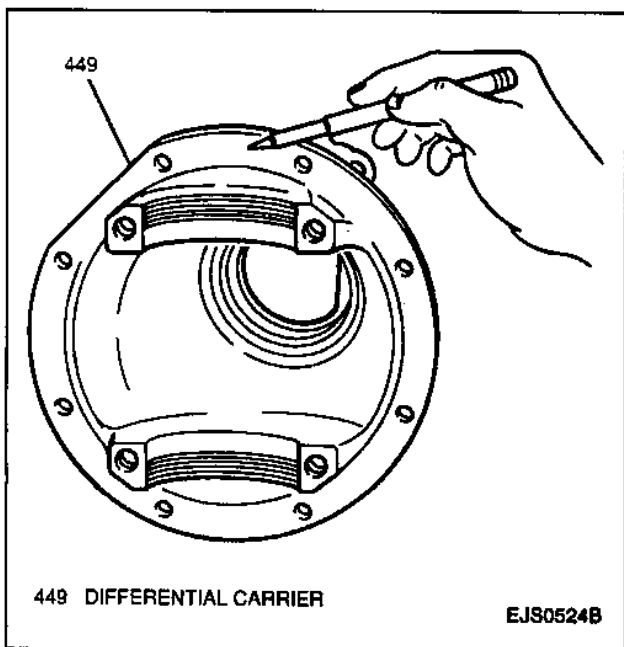

Figure 52—Inspecting Differential Carrier
1. Differential carrier and case halves for cracks or stripped threads. Replace as necessary (Figures 52 and 53).